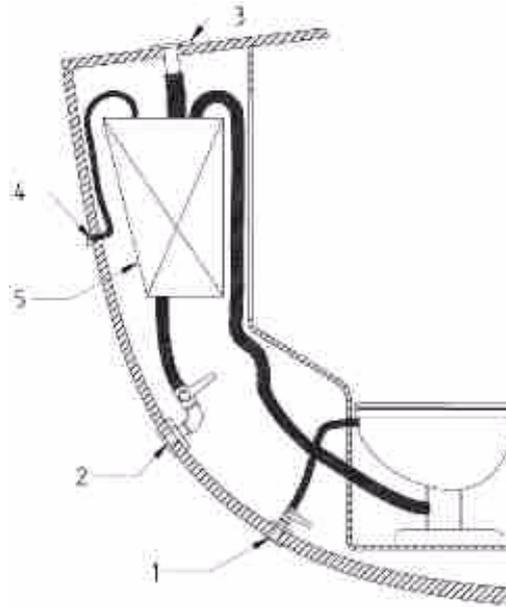
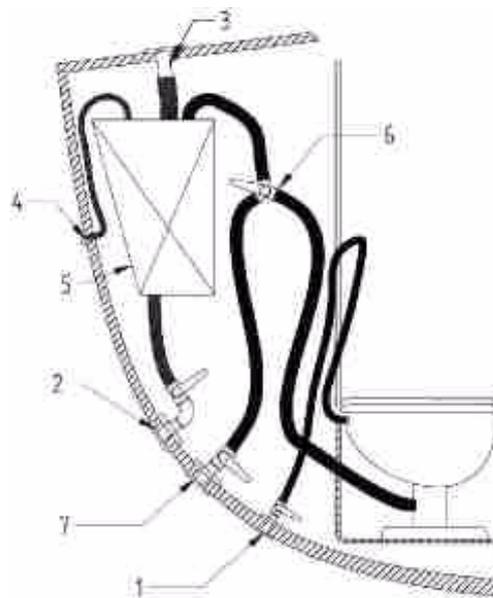

Fig. 1
Fig. 2
There are two different types of WHT: The simple tanks (Fig. 1) and the tanks equipped with 3 way valves (Fig. 2).
- Fig. 1: Open the draining valve (ref. 2).
- Fig. 2: Close the access to the tank with the 3 way valve (ref. 6). Open the draining valve (ref. 7).
- Fig. 1: Make sure the draining valve is closed (ref. 2) (valve handle perpendicular to the pipe).
- Fig. 2: Make sure the draining valves are closed (ref. 2, 7) (valve handle perpendicular to the pipe). Open the access to the tank with the 3 way valve (ref. 6).